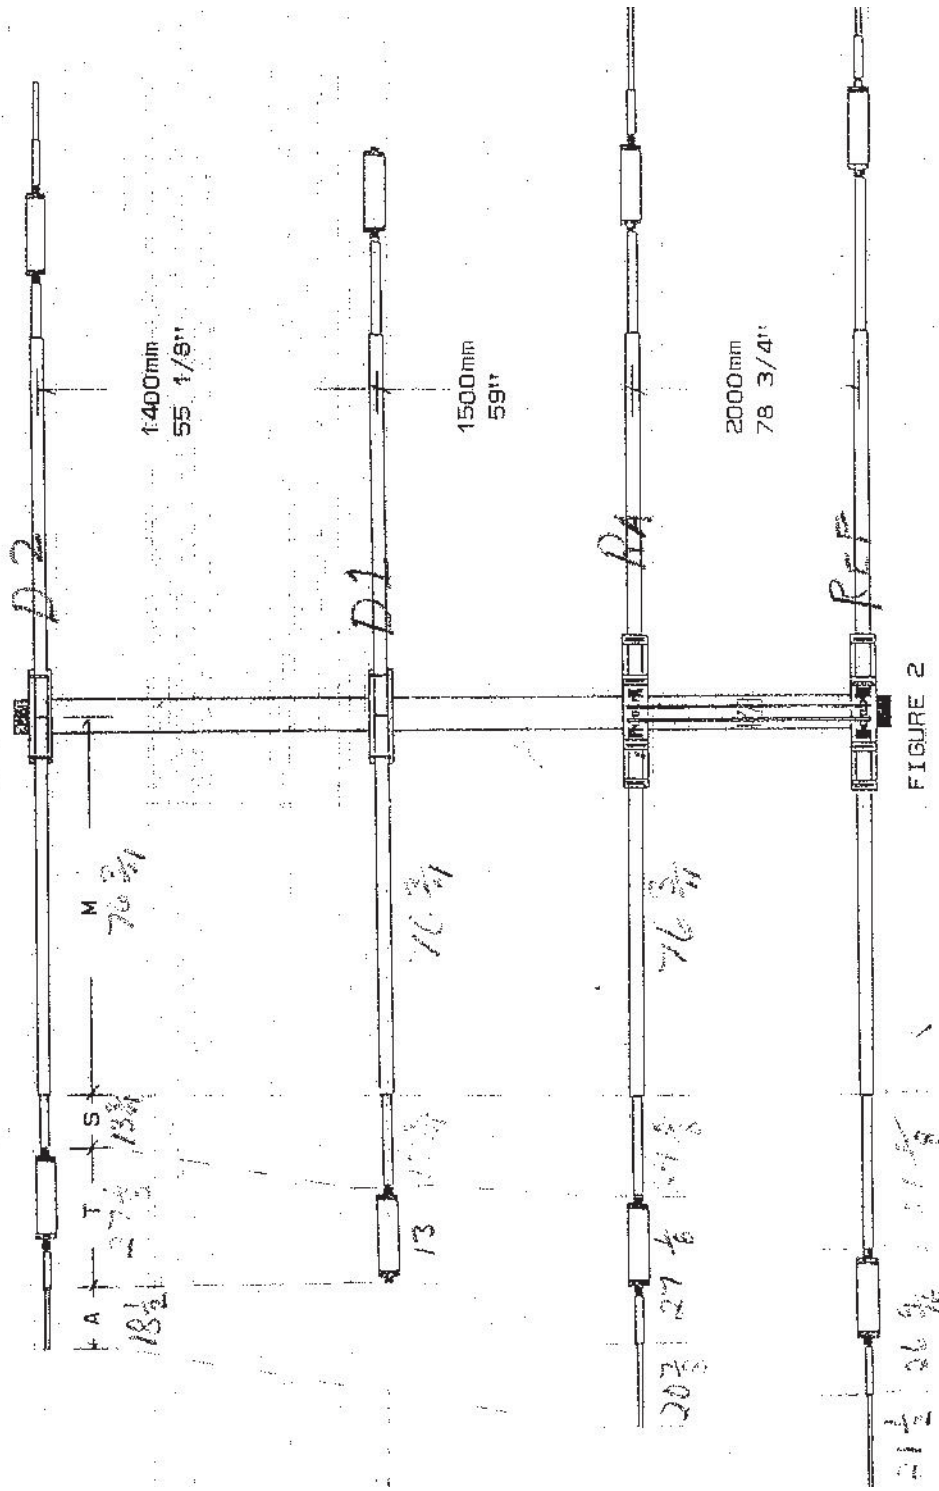
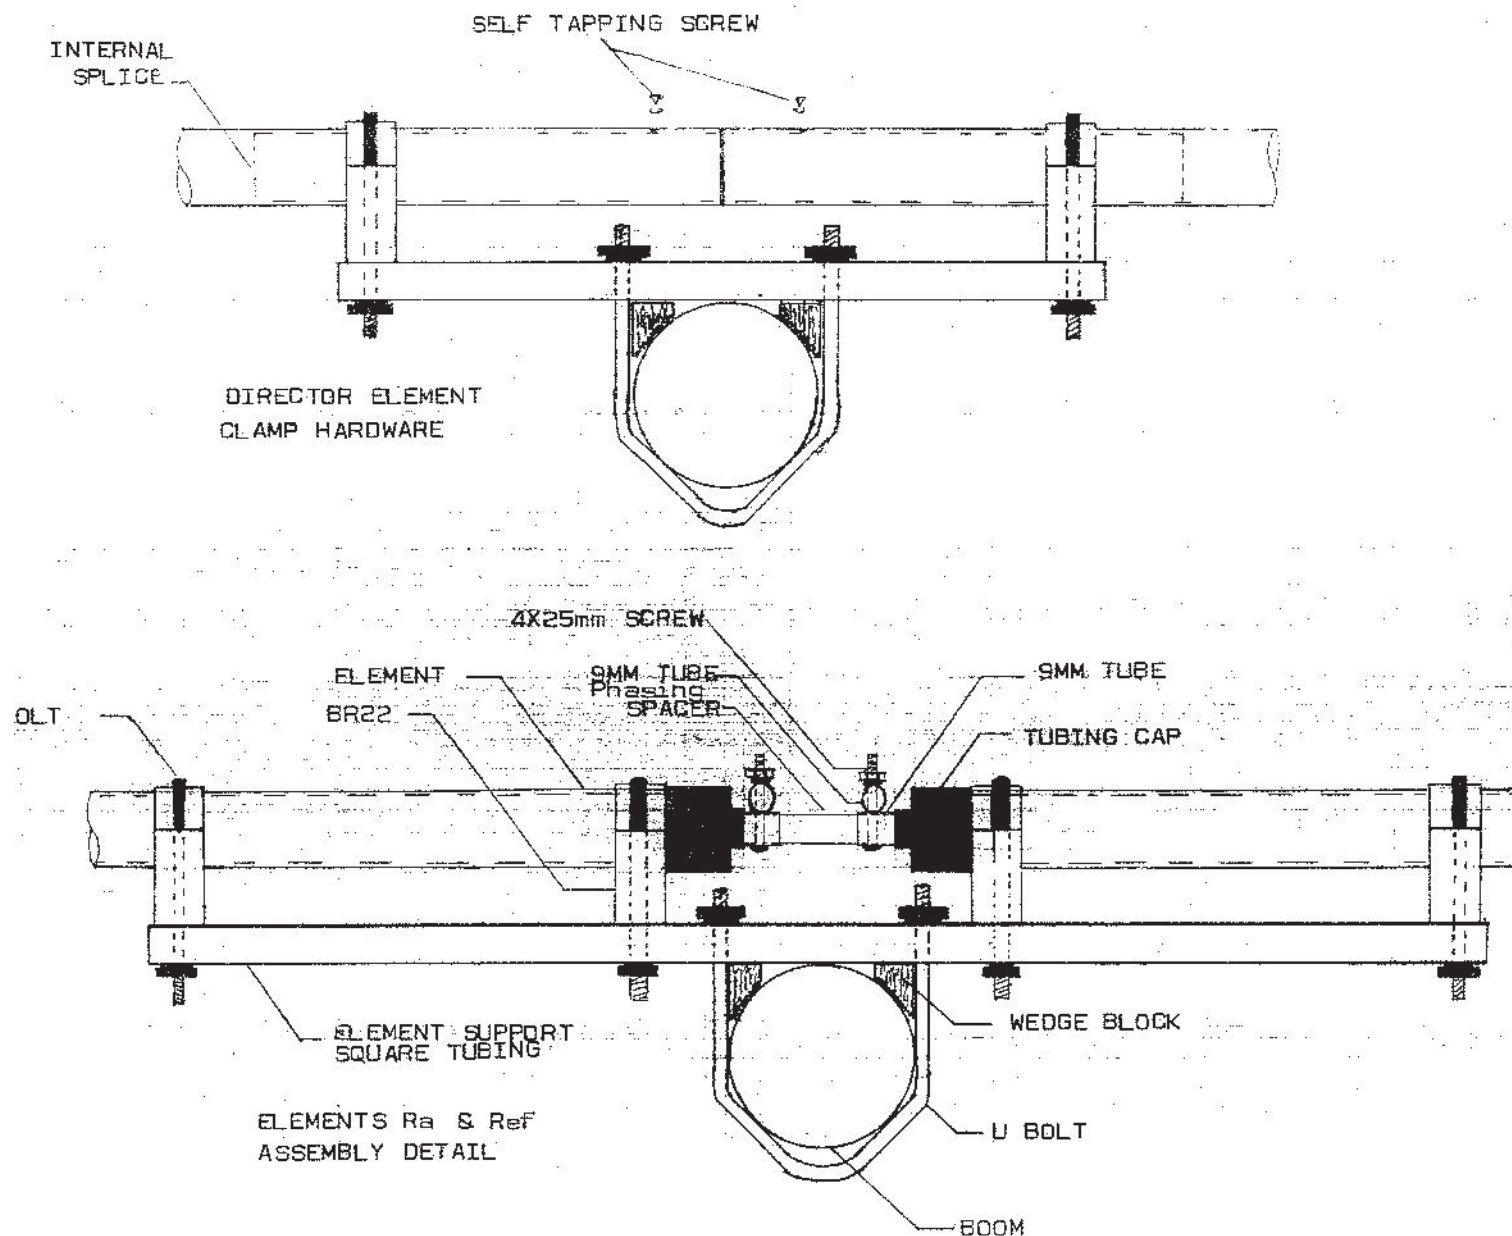

FIGURE 2
FIGURE 1
3.3 Refer to Figure 2. Using a felt tipped pen, place marks on the boom where the clamps holding the various elements are to be attached. Start with element REF. REF centerline is 25mm (1") away from one boom cap.
4.1 Identify and separate parts for the four elements. All, except for the MAIN element sections are labelled as D2, D1, RA or REF. There are two types of MAIN element sections. The 22mm tubing with a small drilled hole at each end is used for elements D2 and D1. The 22mm tubing with end caps and factory installed 9mm capacitor tubing is used for elements RA and REF. Refer to Figure 2 and Table 1 for element lengths. Refer to Figure 1 and 2 for assembly detail.
4.4 Install a 7 x 40mm insulating spacer into the 9mm tubing at the inner end of the MAIN element just installed. Reinstall the screw to hold the spacer in place. Now mount another MAIN element section to the opposite end of the element bracket. The insulating spacer must be inserted into the second MAIN element section as it is mounted to the bracket. Complete 4.3 and 4.4 for elements RA and REF. Install two 60U U Bolts to the underside of each bracket. The completed assembly will appear as shown in Figure 1.
4.8 Install two BR22 brackets (one from each end) on each MAIN element. Assemble D1 and D2 MAIN elements to two sections of square element support tubing 200mm (8") long. The complete bracket is shown in Figure 1. Do not tighten the U Bolts at this time.
5.1 Attach elements REF, RA, D1 and D2 to the boom in the positions previously marked. Each element is secured with two 60U U Bolts, washers and nuts. Before tightening the assembly to the boom, slide in two NSD 50 Non Slip Wedge Blocks between the boom and the bracket. Refer to Figure 1 for detail.